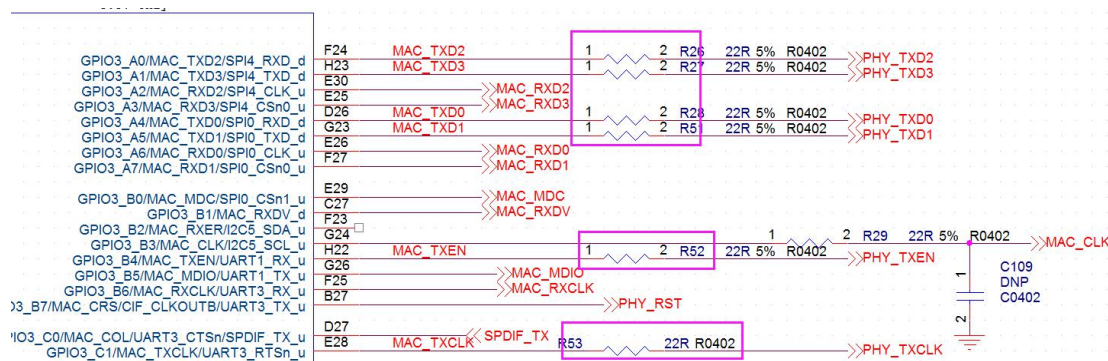

Figure 4-41 MAC TX Series Resistor
- The series resistor should be placed close to RK3399, shown as Figure 4-41.